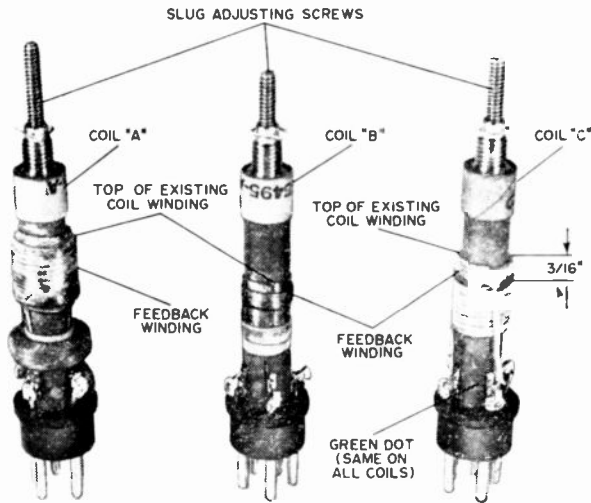

Fig. 7. Each of the plug-in coils is mounted on an Amphenol miniature 5-pin plug. Coil modification details appear in the text on the next page.
**Coil Modifications.** A set of three plug-in coils will cover the frequency range from 0.55 MHz to 18 MHz. Three J. W. Miller pre-wound slug-tuned coils are used for the purpose. As furnished by the manufacturer, each coil consists of a primary winding which is connected to the external antenna and ground, and a secondary winding which is tuned by an external capacitor. A miniature 5-pin plug must be attached to each coil for "plug-in" capability. Also, a simple feedback winding must be added to each coil as shown in Fig. 7.
out easily. If necessary, carefully trim away any excess solder. Place the plugs against each coil as shown in Fig. 7. Align the green dot on each coil between pins 2 and 3 on each plug, and attach each lead to the nearest solder lug on each coil. Run each lead through the loop on the solder lugs and cinch the leads tightly to make a rigid assembly out of the coil and plug, then solder each connection. Finally, cut off any excess leads.